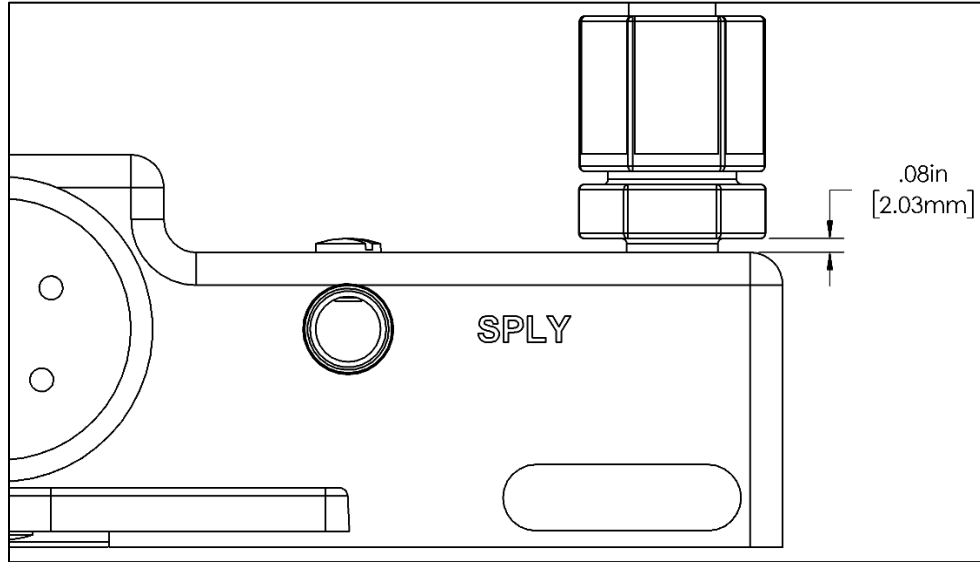

Figure 4-5: Jaco Fitting Final Position
- Depth is .08 inch from bottom of wrench hex to top of pump base as shown. See Figure 4-5. Loosen the nut.